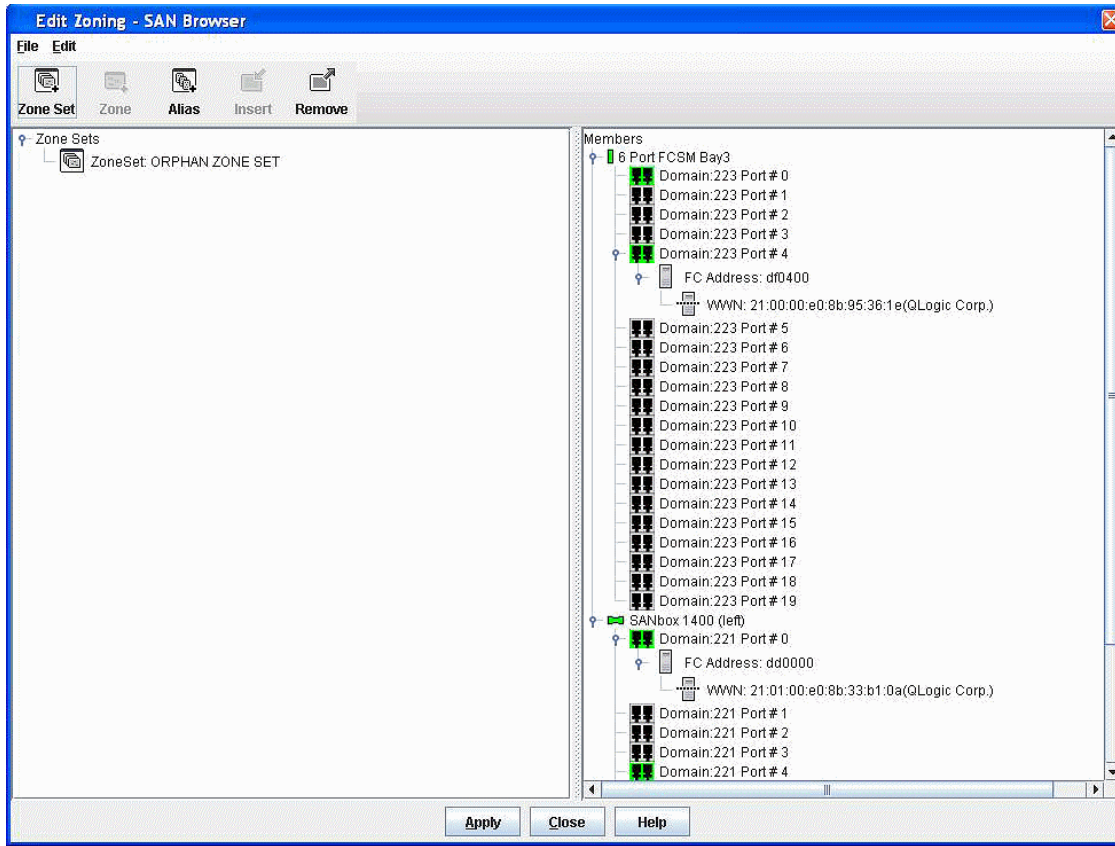

Figure 9-18 Zoning switches listed window
- From the Edit Zoning dialog window, click the **Zoning** icon and then click **Edit Zoning**. You will see a window similar to Figure 9-18.